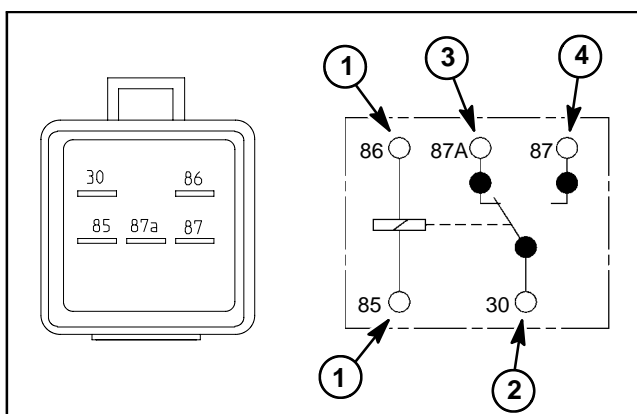

Figure 35
4. Using a multimeter (ohms setting), measure coil resistance between terminals 85 and 86 (Fig. 35). Resistance should be between 70 and 90 ohms.